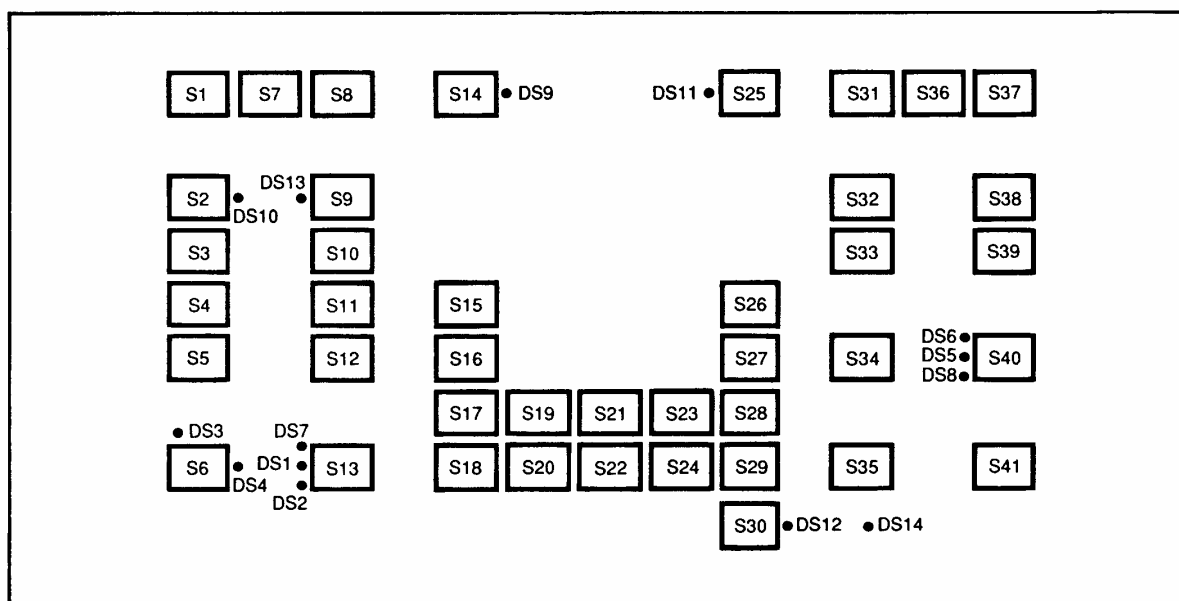

Figure 8-22. Control Panel Switches and LEDs
- a. Pushbutton Matrix System. The pushbutton matrix system identifies which button on the control panel has been pressed. Control panel switches and LEDs are shown in their respective positions in Figure 8-22. Table 8-5 lists each switch and its associated function.